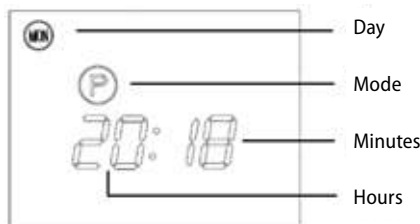

Fig. 1
1. Remove the holder from the body as shown in Figure 1.
Before you start using the appliance, turn on the switch located on the side of the appliance. Fig. 1 illustrates what the display will be showing, now the appliance is in standby mode and it does not heat. Display shows .
Press and hold the button to set the hours, press and hold the button to set the minutes, press and hold the button to set the days, see Fig. 1.